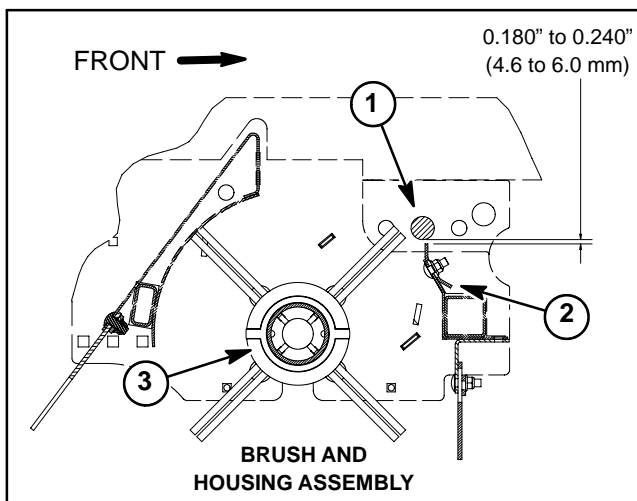

Figure 37
13. Check that the distance from the rotating corner shaft to the scraper plate is from 0.180" to 0.240" (4.6 to 6.0 mm) across the entire corner shaft (Fig. 37). If necessary, loosen fasteners that secure scraper plate to machine and adjust scraper plate location.